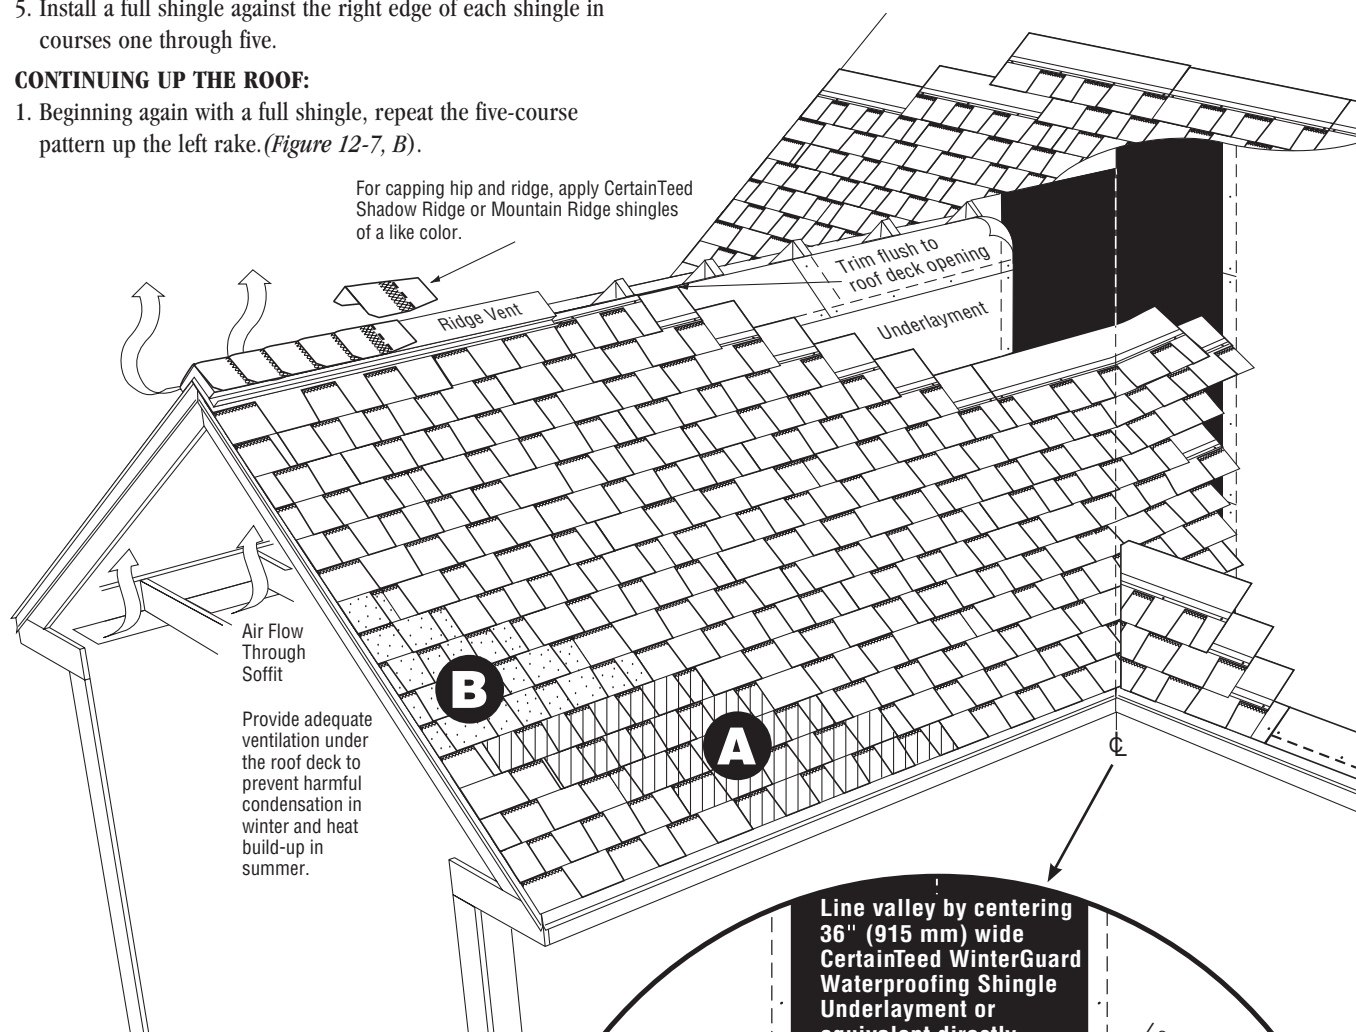

Figure 12-7: "Five-Course Diagonal Method" installation schematic.
1. Beginning again with a full shingle, repeat the five-course pattern up the left rake. (Figure 12-7, B).
2. Fill-in courses across the roof in a stepped diagonal fashion using full shingles. (Figure 12-7, A). Do **not** run courses straight across.